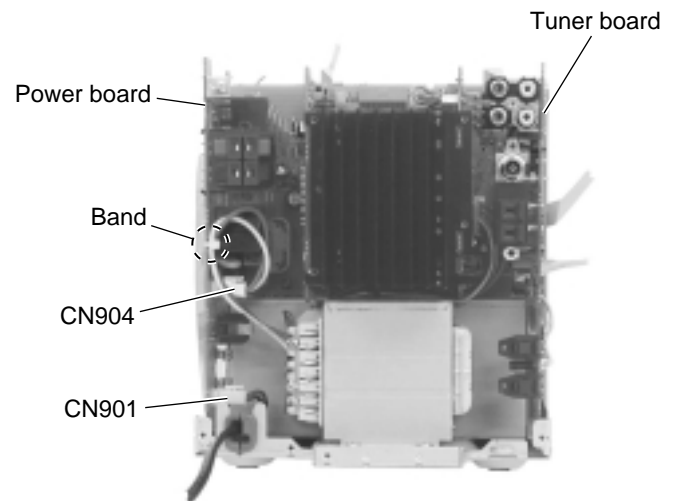

Fig.14
■ Removing the power board (See Fig.14 and 15)